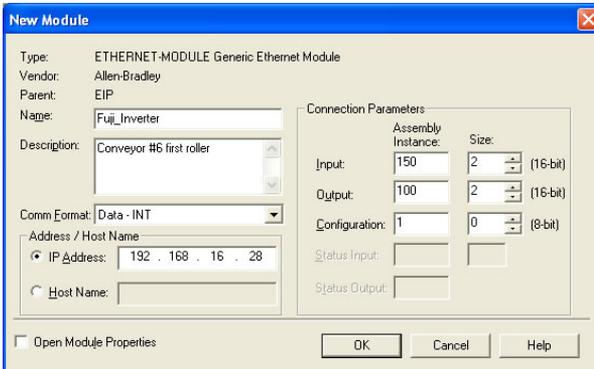

Figure 84: Interface Card Module Properties
- 4) The module properties dialog box will open (refer to Figure 84). Enter a Name and Description which will allow easy identification of the inverter on the network (the tags created in RSLogix 5000 will be derived from this Name). Because all inverter data is stored as 16-bit registers, change the “Comm Format” selection to “Data-INT”. Enter the IP address of the targeted interface card.